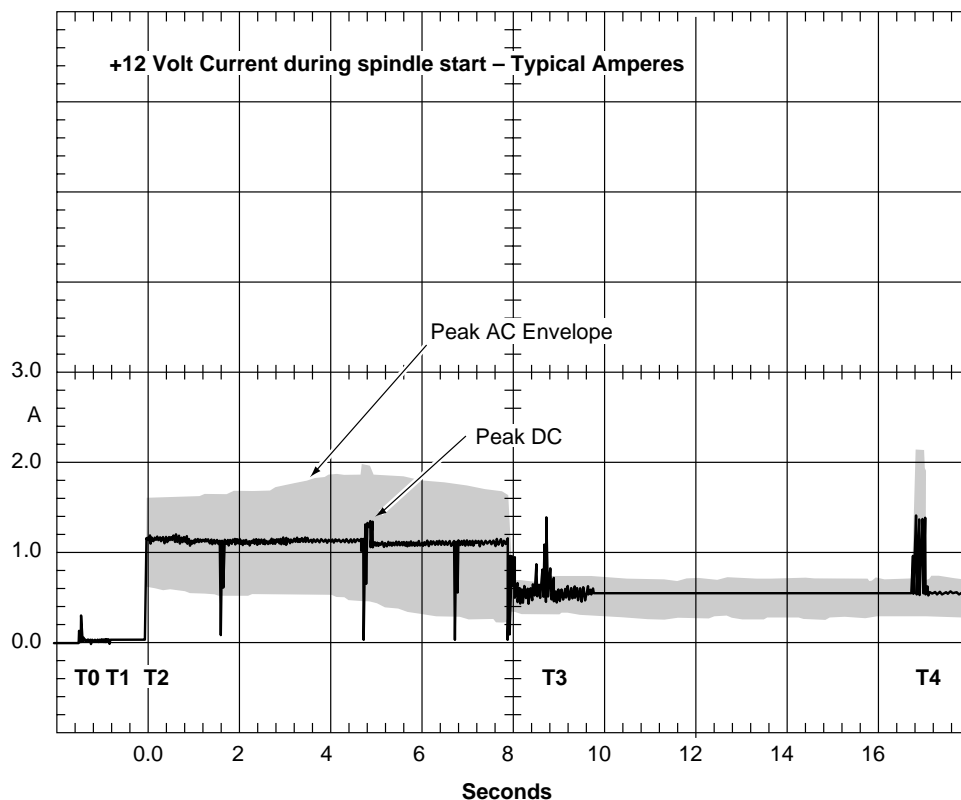

Figure 3. Typical Barracuda 180 family drive +12 V current profile
- [3] See +12 V current profile in Figure 3.
Figure 3 identifies the drive +12 V current profile. The current during the various times is as shown: